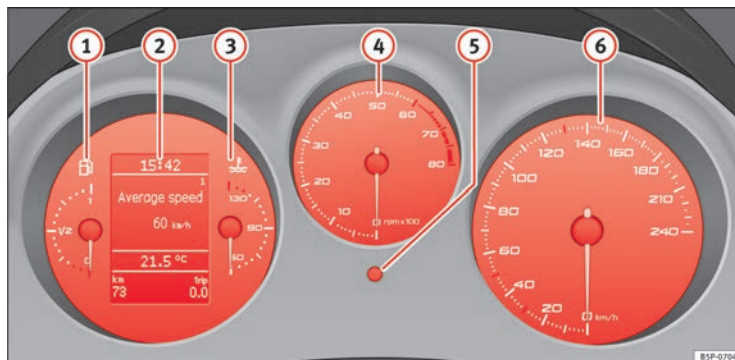

Fig. 34 Detailed view of the dash panel: instrument panel
The start of the red zone ⇒ Fig. 34  indicates the maximum engine speed operating at service temperature. However, it is advisable to change up into a higher gear, move the selector lever to D or lift your foot off the accelerator before the needle reaches the red zone.
- Turn the setting knob ⇒ Fig. 34  clockwise until the first “click” to set the hour. The hour will flash. To change the hour, press the button.